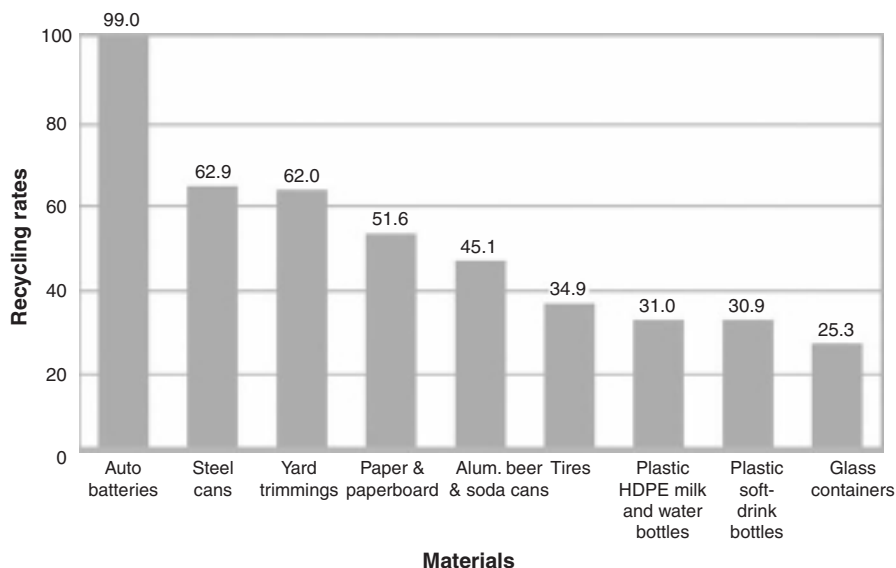

Figure 11.5
Recycling may be lower on the WMH than P² or reuse (and remanufacturing), but it is vital. Its environmental benefits include saving resources, using less energy, and producing less pollution than making a product from virgin resources.²⁰ Recycling also provides jobs. About 8500 US curbside recycling programs existed in 2005. These serve over half the population, and 84% of US cities. Recyclables could be dropped off at 12 000 other sites. Materials collected include paper, steel (tin) and aluminum cans, glass containers, plastic containers (especially #1 and #2) and waste oil (**Figure 11.5**). Although the US recycling rate increased sharply in the years before 2000, it has since almost leveled off and in 2007 was only 32.5%. However, some cities, San Francisco is one, has a 69% recycling rate; this city does not ask citizens to separate recyclables, but collects them in a single stream which are later sorted in a facility that combines machine and human separators. One way the city
Also see Figure 11.5 and see Wastes quick finder, A-Z topics. *US EPA*. <http://www.epa.gov/epawaste/index.htm>
- **Plastics**²⁵ The world produces 250 billion pounds (~113 billion kg) of plastic pellets a year. It is from these that all plastic products or plastic composite products are made from soft-drink bottles to medical equipment or cars. Plastic discards in US MSW were less than 1% by weight in 1960, but by 2006 they were 11.7%. See Box 11.3. Types of plastics included 14 million tons (12.7 million tonnes) as containers and packaging, over 6 million tons (5.4 million tonnes) as nondurable goods, and about 9 million tons (8.2 million tonnes) as durable goods. In the 11 US states in 2008 that charged deposits on beverage containers – plastic bottles and aluminum cans – recycling rates are higher than in states without deposits. Deposits are returned when the bottles are returned.²⁶ In states with deposits, more people save containers to get their money back; others add to their incomes by collecting plastic bottles and aluminum cans discarded by others. Some of the 11 states are working to increase the deposit charged; yet other states are introducing bills to start charging deposits. The average rate of recycling plastic bottles remains low (Figure 11.5). Only about 4% of plastics in the MSW stream are recycled; however, the figure for two specific plastics is higher. The rate for polyethylene terephthalate (PET) soft-drink bottles was 31% in 2007, and recovery of HDPE milk and water bottles about 31%. Recycling the PET used to make soft-drink bottles uses 47% less energy than making it from raw materials.